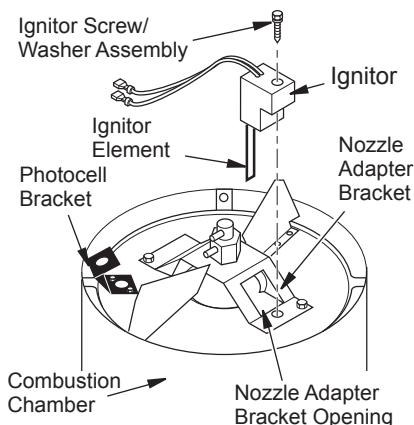

Figure 16 - Ignitor SP002-01 Replacement
6. Remove combustion chamber. Stand combustion chamber on end with nozzle adapter bracket on top (see Figure 16).